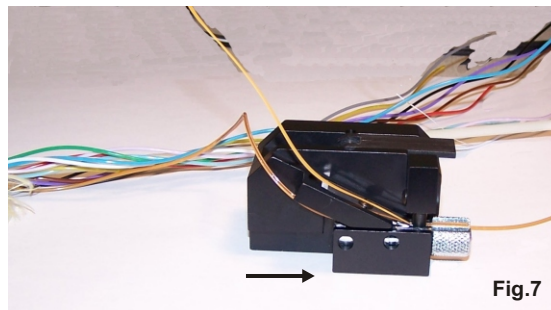

Fig.7
6. Pull the tool toward you to engage the blade and shave a window in the buffer tube to the desired length. (Fig.7)